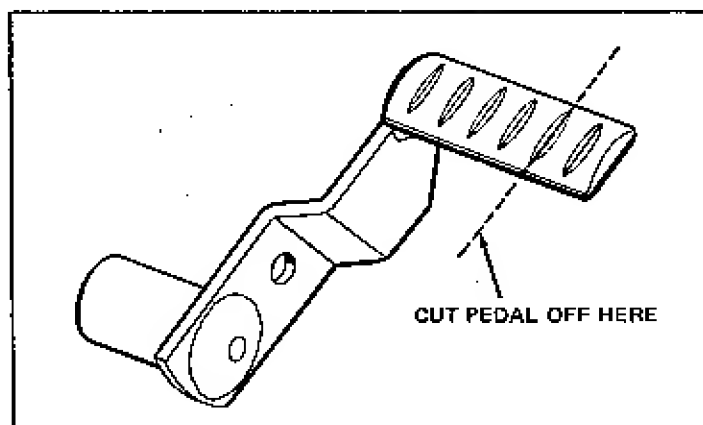

Figure 11.
14. On the Landlord Tractor the clutch pedal must be cut off at the second notch. This is necessary to eliminate interference between the R.H. loader frame and the pedal. See Figure 11.